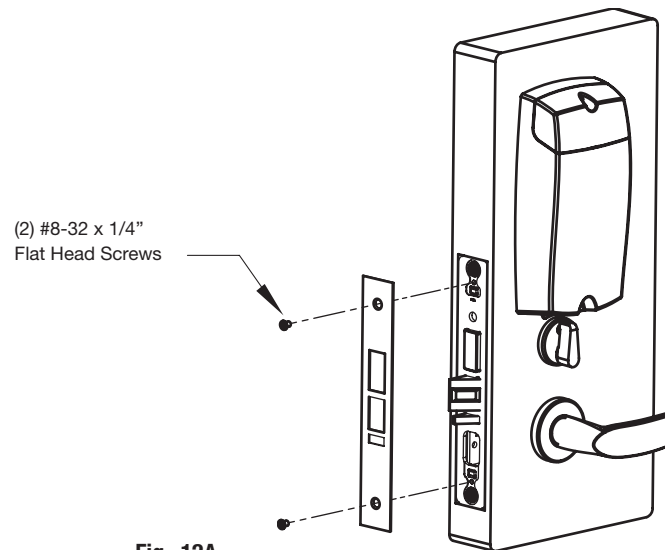

Fig. 12A
Attach front plate with (2) #8-32 X 1/4" flat head screws (Fig. 12A).